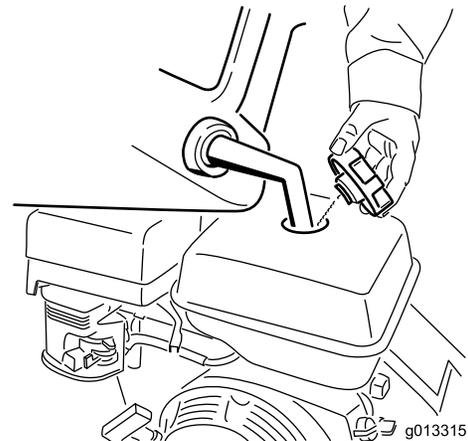

Figure 9
4. Clean around the fuel tank cap and remove it (Figure 9).